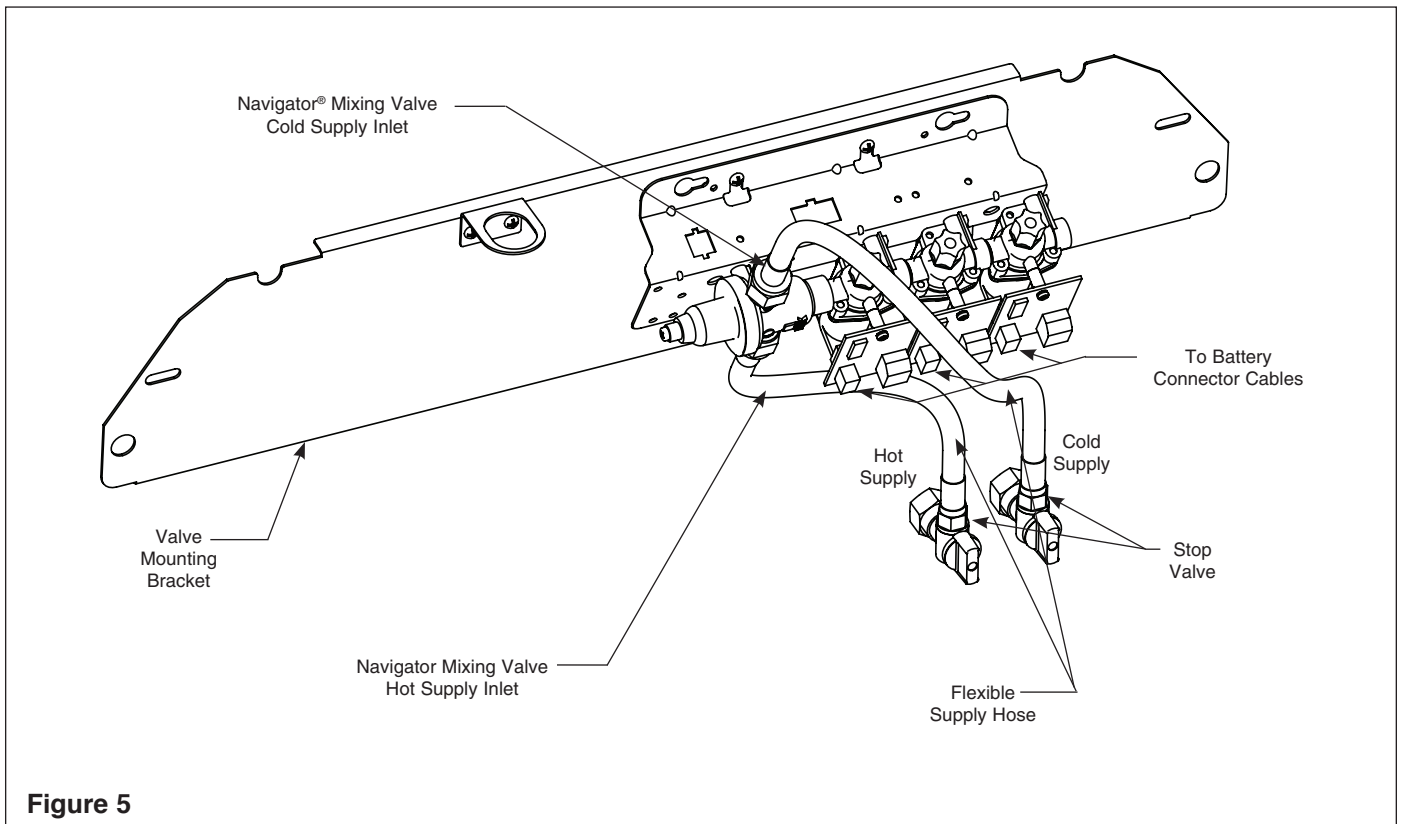

Figure 5
1. Connect the ½" compression female end of the stop valves to the rough-ins (see Figure 5).